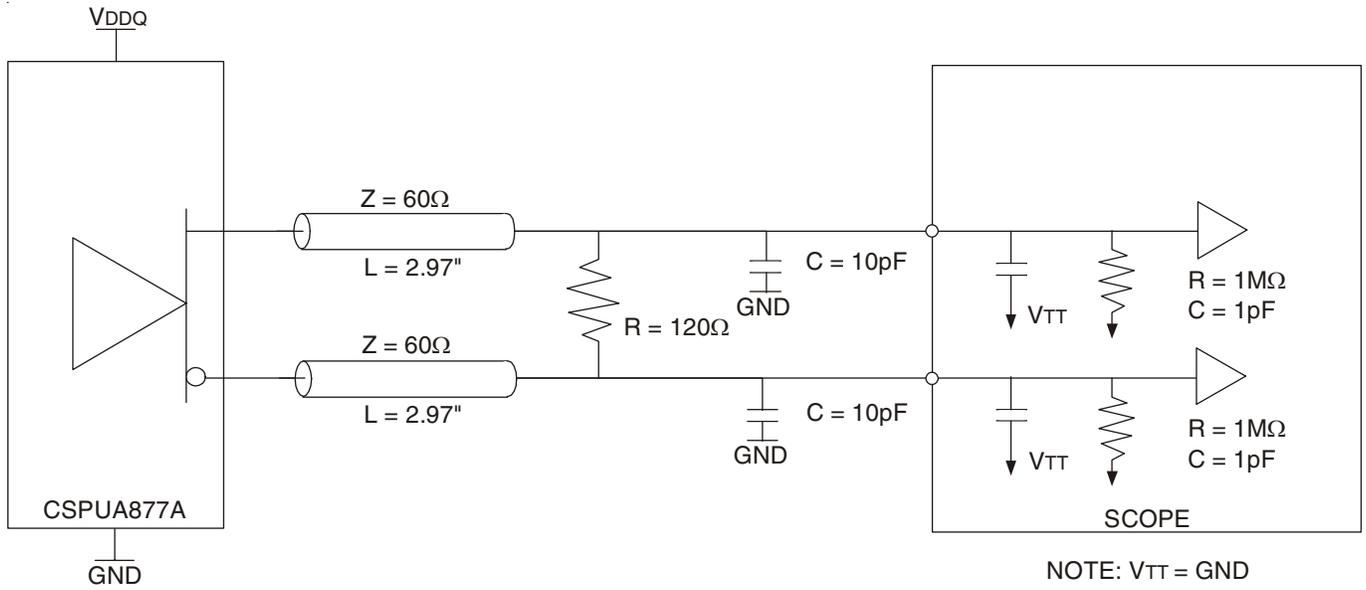

Figure 1: Output Load Test Circuit 1
- There are two different terminations that are used with the above AC tests. The output load shown in figure 1 is used to measure the input and output differential pair cross-voltage only. The output load shown in figure 2 is used to measure all other tests, including input and output slew rates. For consistency, use 50Ω equal length cables with SMA connectors on the test board.
- In the frequency range of 271 - 410MHz, the min and max values for t_{JIT}(PER) and t_{(∅)DYN}, and the max value for tsk(O), must not exceed the corresponding min and max values of the 160 - 270MHz range. Also, the sum of the specified values for | t_{JIT}(PER) |, | t_{(∅)DYN} |, and tsk(O) must meet the requirement for Σt(SU), and the sum of the specified values for | t_{(∅)DYN} | and tsk(O) must meet the requirement for Σt(H).